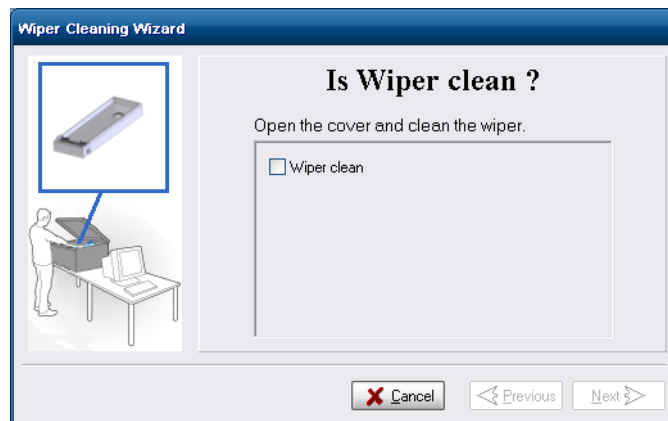

Figure 6-40: Wiper Cleaning Wizard during steps 6–9
9. In the wizard screen (see figure 6-40), confirm that the wiper blade is clean, and click **Next**.